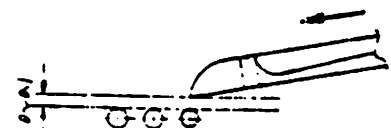

Fig 14
2. At the time when looper moves from its right position to left and looper passes the back of the right needle, please adjust the distance within 0.1mm between the needle and the top of looper as indicated in Fig. 14, by moving the looper rocker to front or rear.